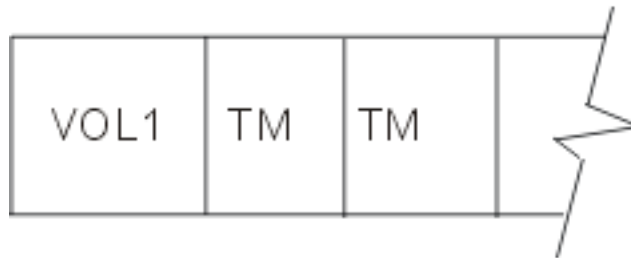

Figure 1. Volume Label and Tape Marks
In Figure 1, the INZTAP command gives the tape a volume label (marked VOL1) and writes two tape marks (TM).